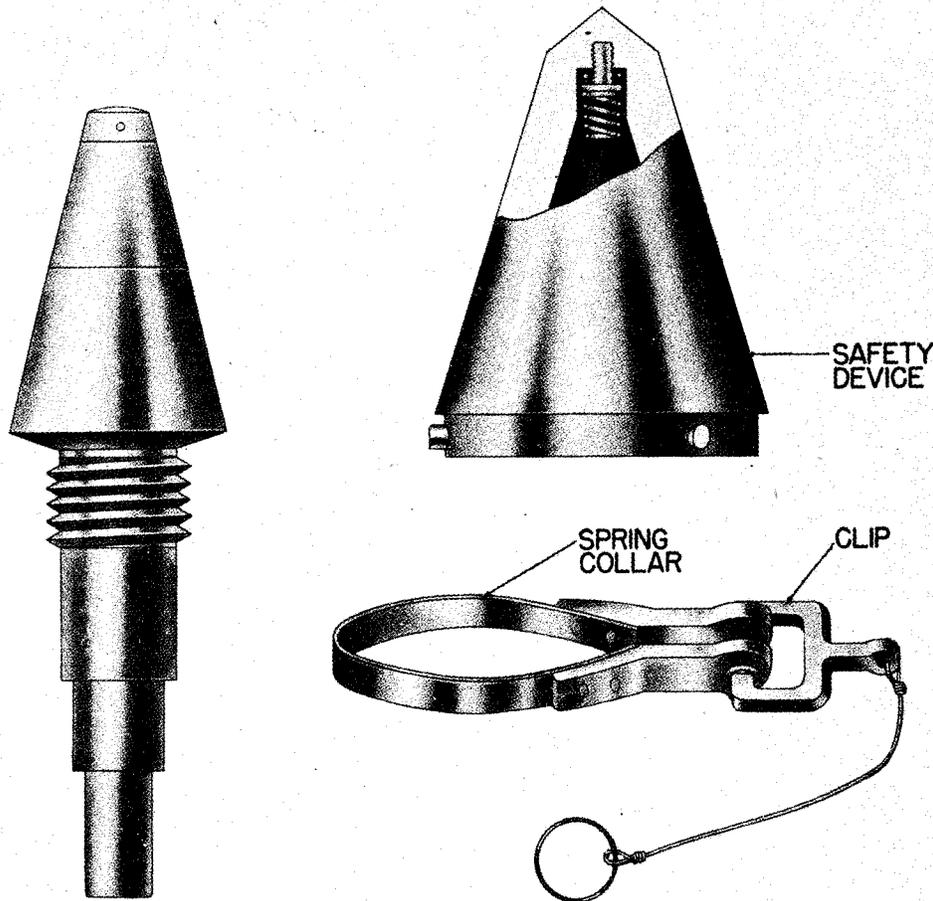

Figure 266 - Nose Impact Fuze R.S.A. Model 1930
3. Safety device for use with the R. S. A. Fuze 30/45, Model 1930: This is shown in figure 266. It consists of a single piece of bronzed steel in the shape of a hood. Inside of the apex of the hood is a spring which holds the head of the fuze away from the hood, and assists in the removal of the hood after the bomb is released. The hood is held in the head of the fuze by three spring-loaded pins, which pass through the lower portion of the wall of the hood, and are held in position by a spring collar. When the collar is closed by the clip, the pins are pressed into a groove on an adapter, which screws into the bomb. When the bomb is released, the clip is pulled away, the three pins are free to move, and, with the assistance of the spring, the safety hood falls away from the path of the bomb.